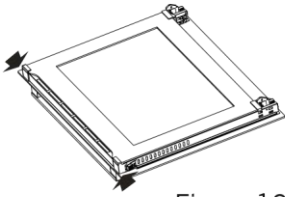
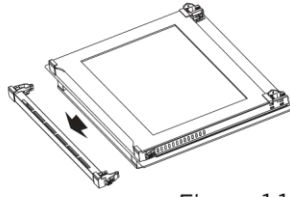
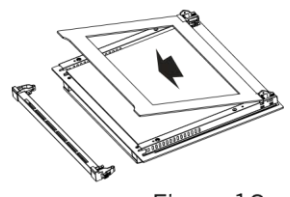

Figure 10
Figure 11
Figure 12
1. Press the plastic latches on the left and right sides as shown in Figure 10 and lift the the profile by pulling it towards you as shown in Figure 11. Glass will be free after the profile is removed as shown in Figure 12. Carefully pull the glass that has become free toward you. If necessary, the middle glass can also be removed in the same way. The outer glass is fixed to the oven door profile. You may easily clean the glasses after they have been separated. Once the cleaning and maintenance is complete, you can replace the glasses and the